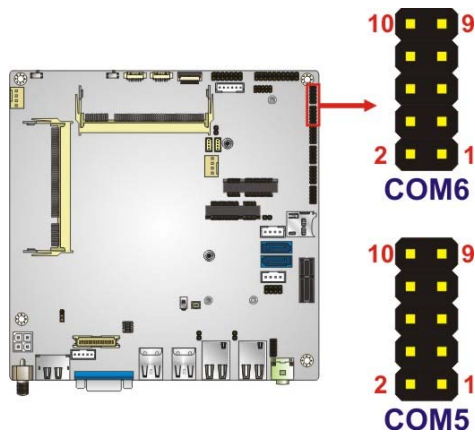

Figure 3-19: RS-232/422/485 Connector Locations
- CN Location:** See Figure 3-19